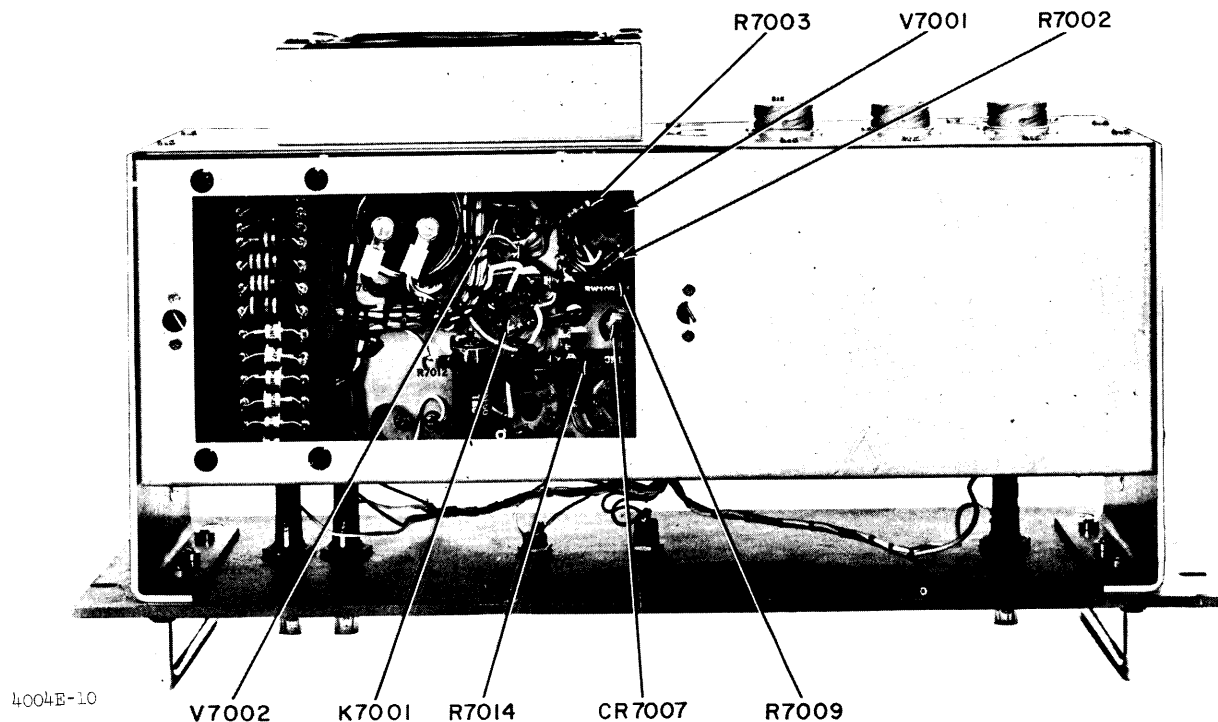

Figure 5-2. Power Supply MFP, Bottom View
(1) With the unit mounted in the rack and connected to the system, pull the unit out on its slides.
(2) Set system main power switch at ON.
(3) Set system standby/operate switch at OPERATE.
(4) After OPERATE lamp lights, connect a d-c voltmeter to the junction of resistors R7009, R7002 and R7003 (see figure 5-2). Adjust VOLTAGE ADJ potentiometer R7007 to obtain 197 volts. Disconnect meter.